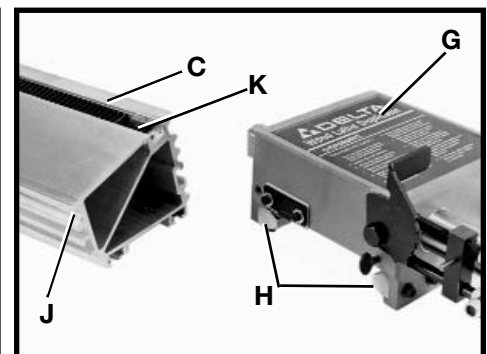

Fig. 15
3. Slide carriage (G) Fig. 15 onto duplicator guide rail (C) by inserting two guides (H) into channels (J) and sliding carriage (G) into gear rack (K). Replace belt guide and screw that were removed in **STEP 1** to the right side of the duplicator rail (C).